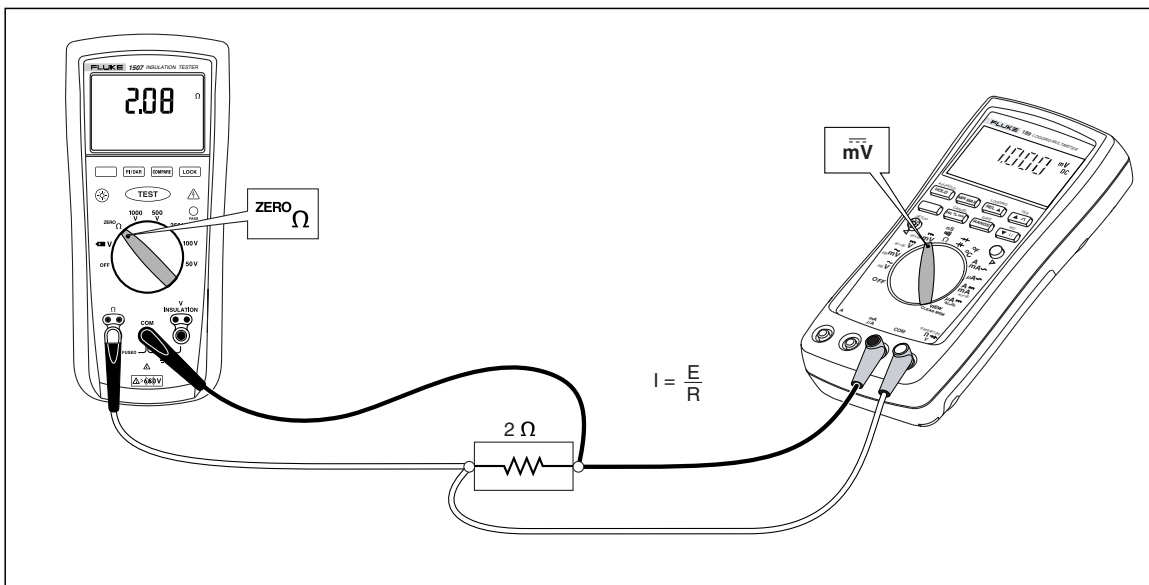

Figure 9. 2-Ω Output Current Test
1. Connect a 2-Ω resistor and DMM to the UUT as shown in Figure 9.